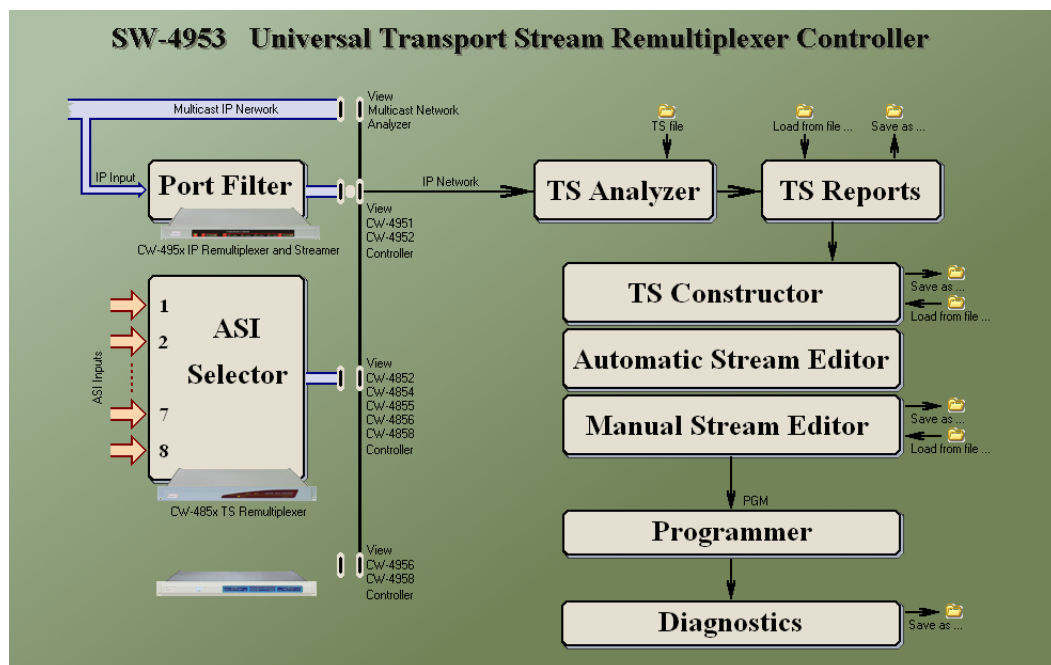

Figure 1.1
- **Diagnostics** – This module allows monitoring the working parameters and the operation of the internal units of the device (in operation). The schematic diagram of the software is shown in Figure 1.1. Also this is shown on the (monitor) software control panel on starting the software.